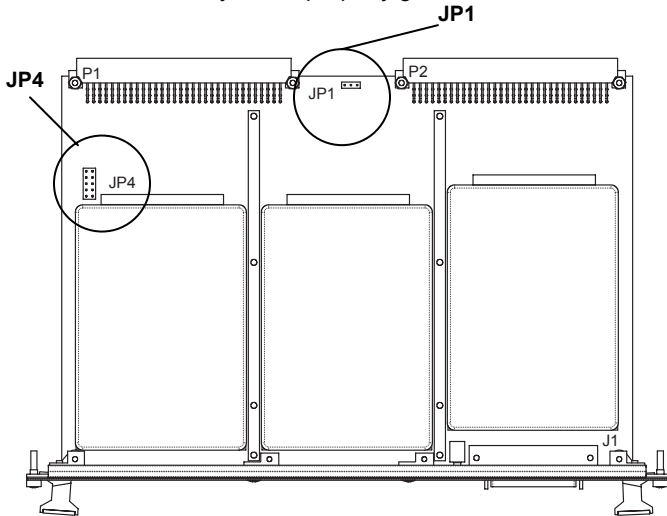
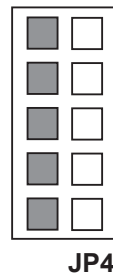

Figure 1 Jumper Location
Figure 2 JP4
1. Set the SCSI ID before installing the SV6 in the VME chassis. The SCSI ID is determined by installing jumpers on pins 4, 2, and 1, or no jumpers for ID 0. JP4 is a set of option jumpers used to configure the internal SCSI ID and options. Refer to Figure 1 for the location of JP4 and Table 2 for valid SCSI ID numbers and jumper combinations. Figure 2 shows JP4 pins.
2. Determine the SCSI disconnects using Pin B on JP4, as shown in Figure 2.
SCSI disconnects are controlled by the SCSI host adapter and are enabled by default. Without using the host adapter controls, disconnects can be disabled by installing a jumper on pin labeled B. See Figure 2 for the location of pin B on JP4.